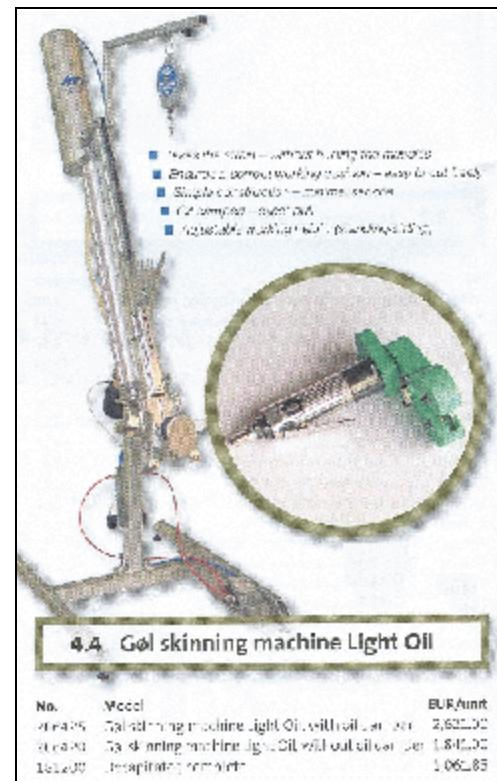

Figure 6: Skinning Machine
- **Skinning Machines:** Skinning Machines are used help in the process of separating the skin from the body. Figure 6 illustrates this type of equipment.